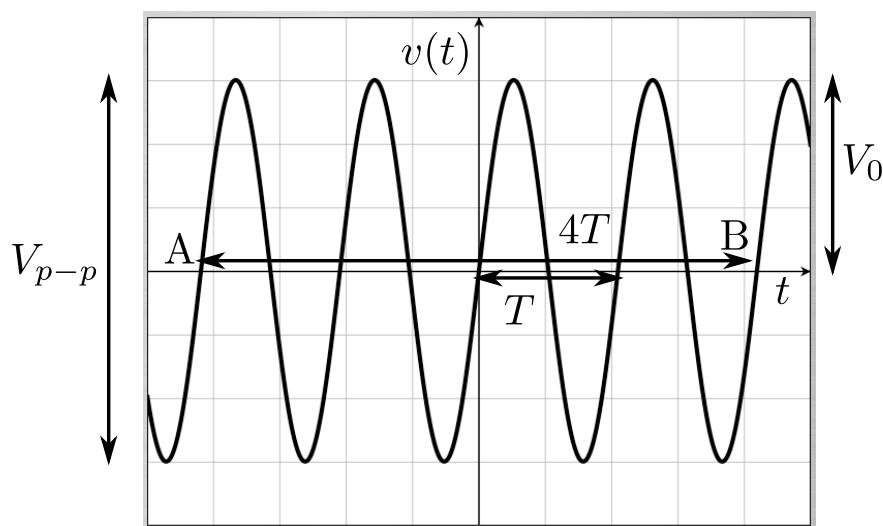

Figure 2: Oscilloscope display.
The display should now look like Figure 2. The horizontal scale (near the top left corner) probably says $50.00 \mu\text{s}/$. The vertical scale (in the bottom left corner) probably says $5.00 \text{ V}/$ or $2.00 \text{ V}/$, depending on your signal generator. These are, respectively, the time and voltage per division, where each division refers to the main 1 cm grid on the screen.
- Select **Voltage** and place **Cur A** along the crests of the waveform and **Cur B** along the troughs. For the most accurate measurement the vertical scale should be adjusted so that the signal is as large as possible on the screen (see Figure 2).
In the cursor menu, now select **Time** and estimate the period T of the signal by centring the voltage waveform on the horizontal centre line of the screen (press the **vertical position** knob) and positioning the cursors to measure the time interval $|\Delta X|$ between crossings of this ‘zero’ centre line 4 periods apart (e.g., as in the interval between points A and B in Figure 2).